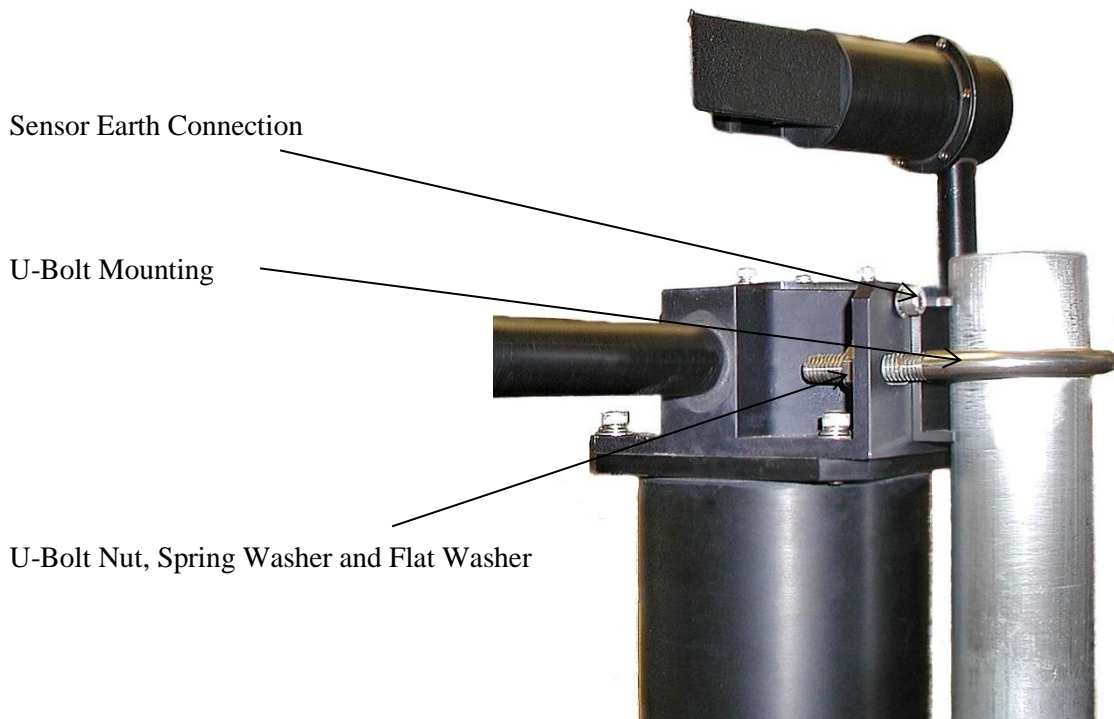

Figure 1-3 - U-Bolt Mounting Method
- (1) Ground Rod: An eight-foot ground rod should be used to make contact with moist soil during even the driest periods.
- (2) Lead Lengths: No. 6 AWG solid copper wire should be used to connect the instrument (and thus the transient voltage suppressers) to the ground rod. Use the shortest and most direct paths to the ground. Simply connect the ground lead to the grounding screw provided above the U-bolt fixing point on the rear of the mounting flange, see Figure 1-3 - U-Bolt Mounting Method.
- (3) System Interconnections: Eliminate all isolated ground loops. The shield of the signal output cable, for example, should be attached only at one end of the cable and left floating at the other end. Preferably, it should be attached to ground at the sensor end of the signal cable.
- (4) Connections: Use tight, corrosion-proof bare metal connections throughout the grounding system.